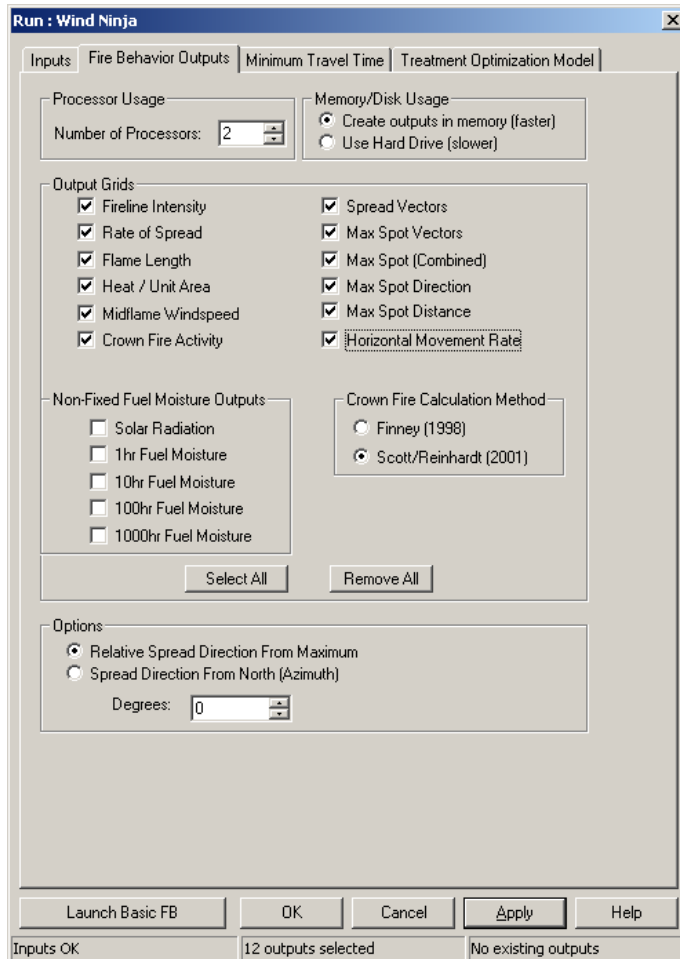

Figure 4-28—Fire Behavior Outputs tab setup to output rate of spread, flame length, crown fire activity and spread vectors.
- 2) Select the **Fire Behavior Outputs** tab (fig. 4-28).
- 11) Select the **Fire Behavior Outputs** tab (see fig. 4-28). Verify the same options are selected.